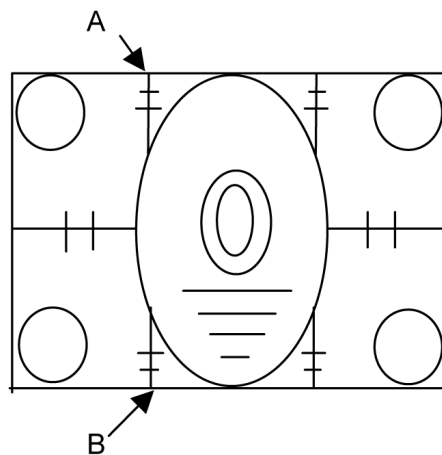

Fig.2
2. Adjust V-AMP so that A & B (Fig. 2) is 2.0 ± 0.1